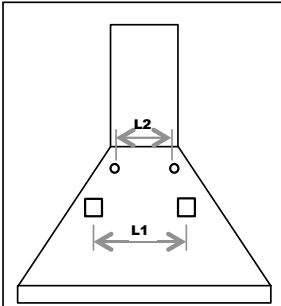

Fig. 5
- N.B.: Fixing systems a) and b) fit on to the back of the hood in the holes L1 (Fig. 5).